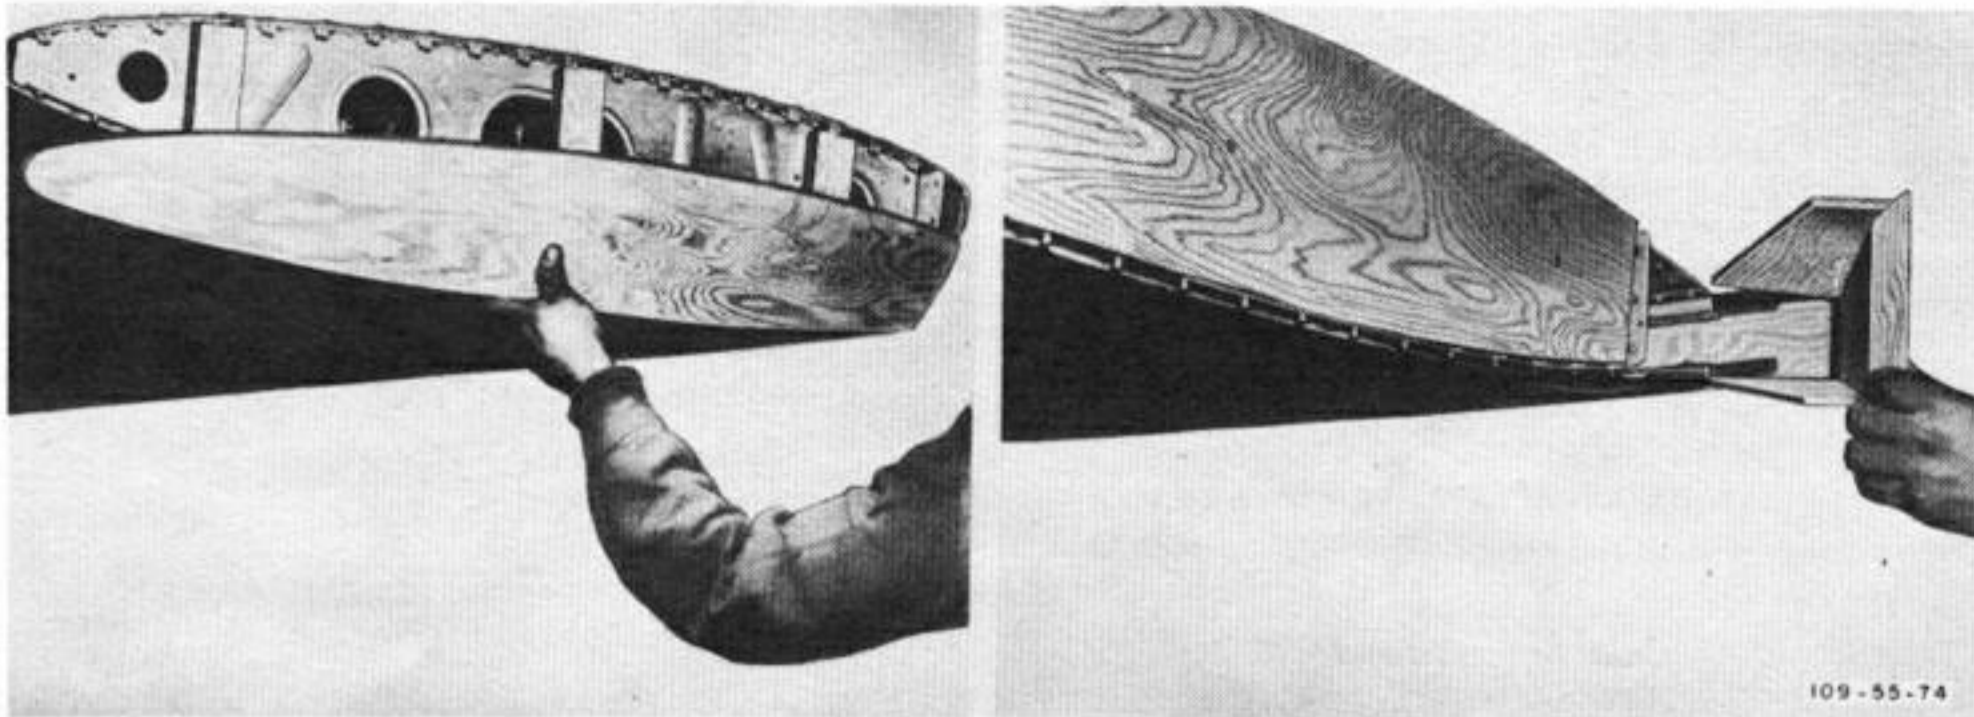

Figure 19—Installing Wing Panel End Shield
g. Fasten this piece to aileron shield and wing tip butt shield with 4-penny nails. (See figure 19.)